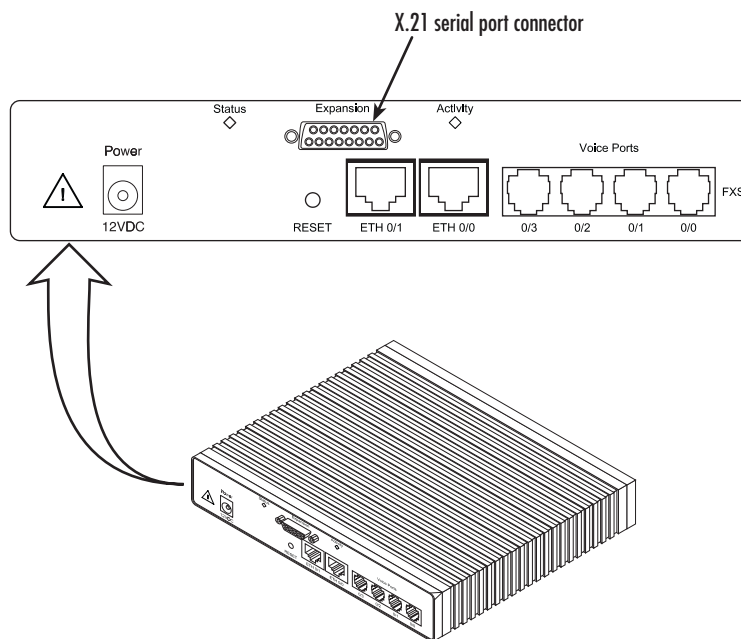

Figure 17. Rear view of the SN4830 showing location of X.21 interface connector
**Installing the X.21 interface cable.** The SmartNode Model 4830 comes with an X.21 interface presented on a DB-15 female connector (see figure 17).